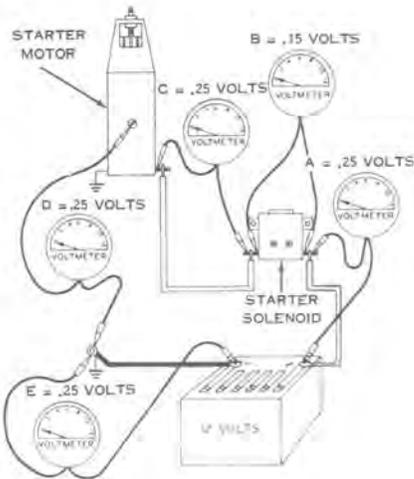

Figure 7-38
- By making a systematic check from the positive battery terminal, through the starting circuit and back to the negative battery terminal, any component or electrical connection having excessive resistance, thus causing high voltage drop and subsequent hard starting, can be pinpointed (see Figure 7-38).